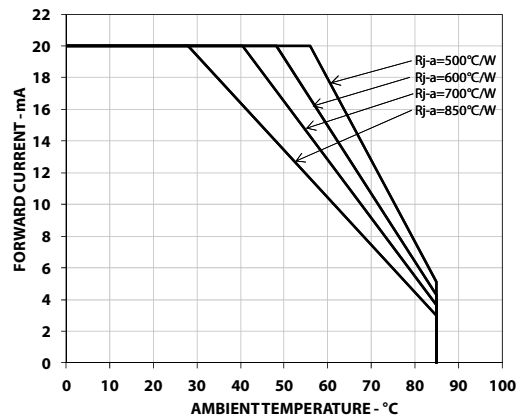

Figure 10. Derating curve
1. Derate as shown in Figure 10.